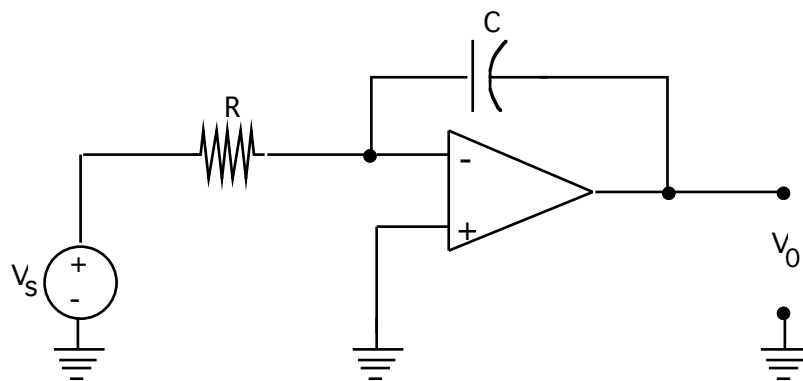

Fig. 3 Integrating Amplifier
The analysis of the integrating amplifier shown in Fig. 3 gives:
- 4.1.1 Build the circuit shown in Fig. 3. Use $R = 620 \Omega$ and $C = 0.1 \mu\text{F}$.